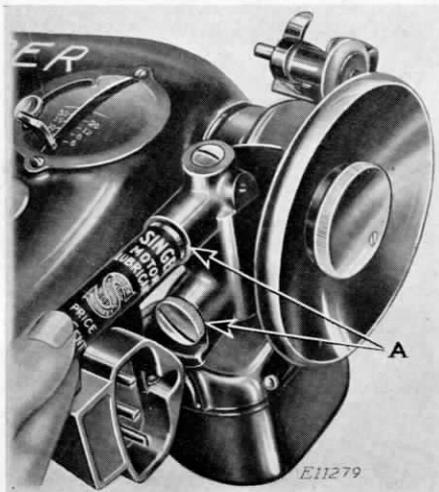

FIG. 34. LUBRICATING THE MOTOR
When the machine is shipped from the factory, the two motor grease cups (A, Fig. 34) are filled with sufficient Singer Motor Lubricant for approximately one year's use, under ordinary circumstances.
At least once a year thereafter, turn the machine back on its hinges and remove the two thumb screws from the two grease cups (A) and clean out the interior of the cups. Then insert the tip of the motor lubricant tube into the grease cups as shown in Fig. 34, and while holding the tube firmly against the bottom of the grease cups, squeeze about a quarter of a tube of the lubricant into each cup, then replace and tighten the thumb screws.